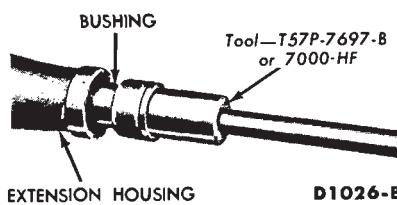

FIG. 23—Installing Extension Housing Bushing
3. When installing a new bushing use the special tool shown in Fig. 23.